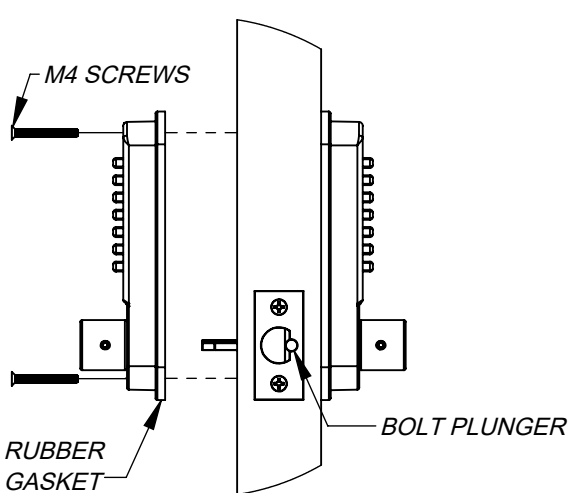
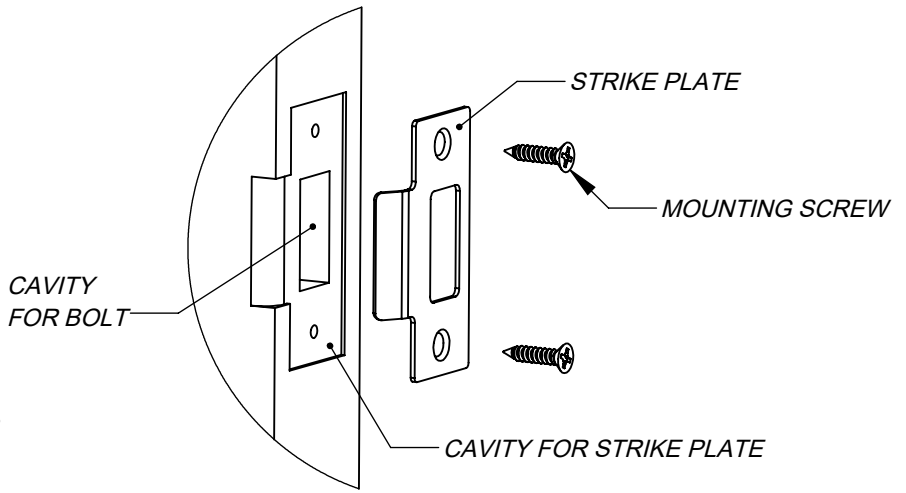

Figure 11
Figure 12
8) Place the remaining rubber gasket onto the back side of the inside body (Figure 11). With the spindle at the proper length, and the outside body held in place on the outside of the door, hold the inside body in the proper place on the inside of the door. Secure the inside body to the outside body using the two included M4 screws by inserting the screws through the holes of the inside body, through the door, into the threaded standoffs attached to the outside body. Do not over-tighten the screws as this could compress the door and cause the spindle to jam. Test the lock using your code. **NOTE: DO NOT CLOSE THE DOOR UNTIL YOU HAVE CHECKED THAT THE LOCK IS WORKING PROPERLY ON BOTH SIDES.**
9) Determine the proper position for the strike plate on the door frame. The hole of the strike plate must align with the latch bolt when the door is closed. Mark the location of the strike plate and cut a cavity 1/16" deep for the strike plate to be flush with the edge of the door frame (Figure 12). Cut a recessed cavity in the location of the strike plate hole to allow room for the latch bolt to enter easily. Secure the strike plate to the door frame using the included #8 x .75" mounting screws. Note: To protect against tampering, the round plunger next to the bolt must not enter the strike plate hole when the door is closed (Figure 11).